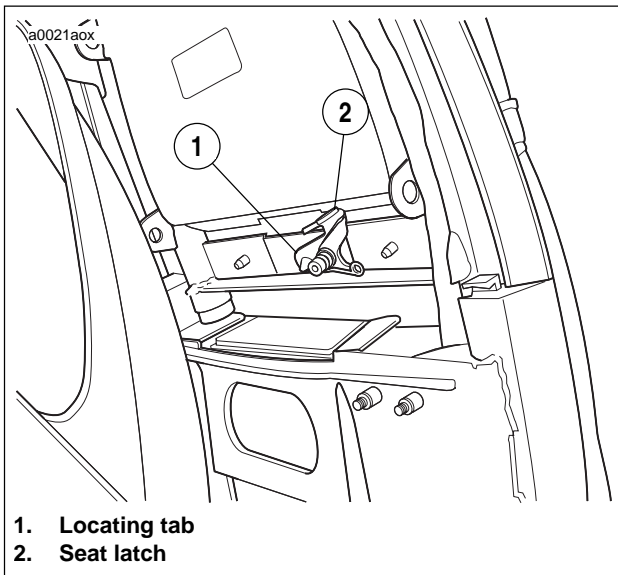

Figure 2-114. Seat Latch
1. See Figure 2-114. Push or pull the seat latch toward the front of the motorcycle with your thumb.